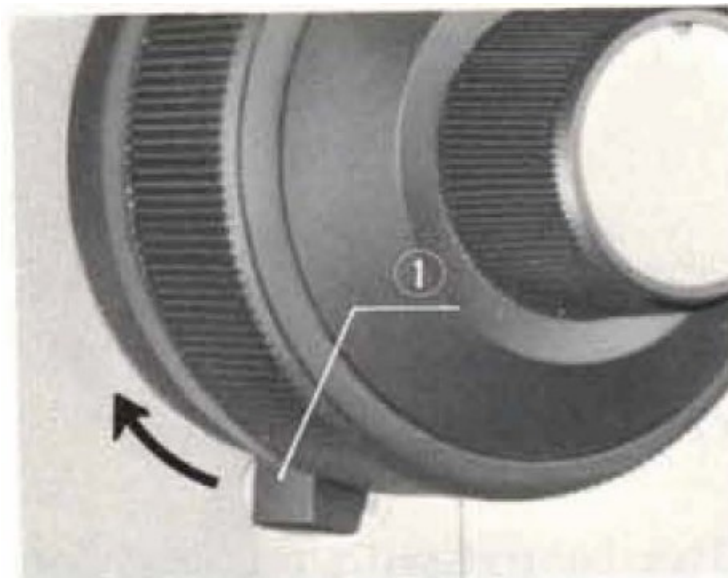

Fig. 8
2) Pre-focusing lever This lever 1 is locked after coarse focus has been accomplished. It prevents further upward travel of the stage by means of the coarse adjustment knobs, and automatically provides a limiting stop if the stage is lowered and then raised again. (Fig. 8)